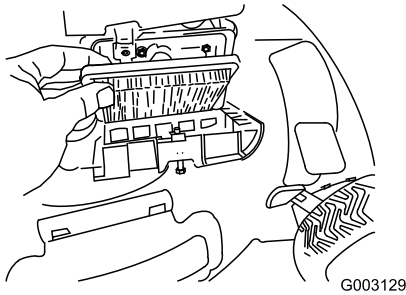

Figure 46
4. Install the cover (Figure 46).